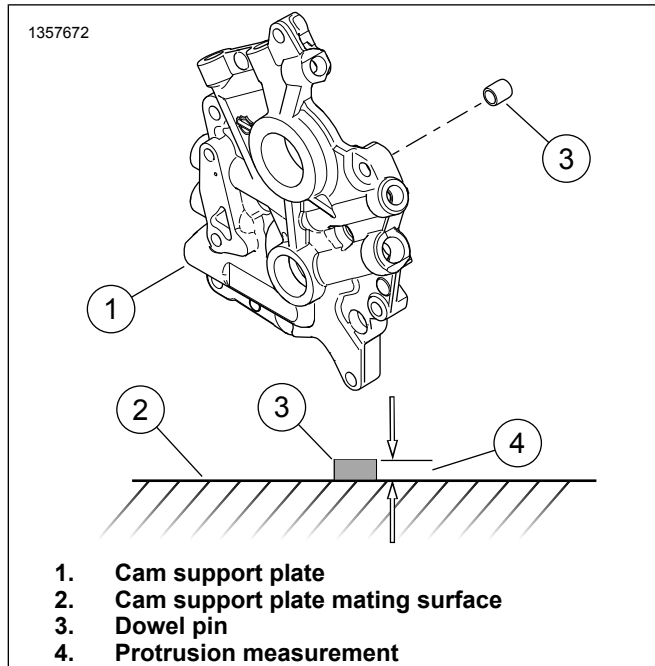

Figure 1. Cam Support Plate Dowel Pin Measurement
- j. See Figure 1. Verify that the protrusion (4) of the dowel pin (3) on the cam support plate (1) is equal to or less than 3.3 mm (0.130 in).